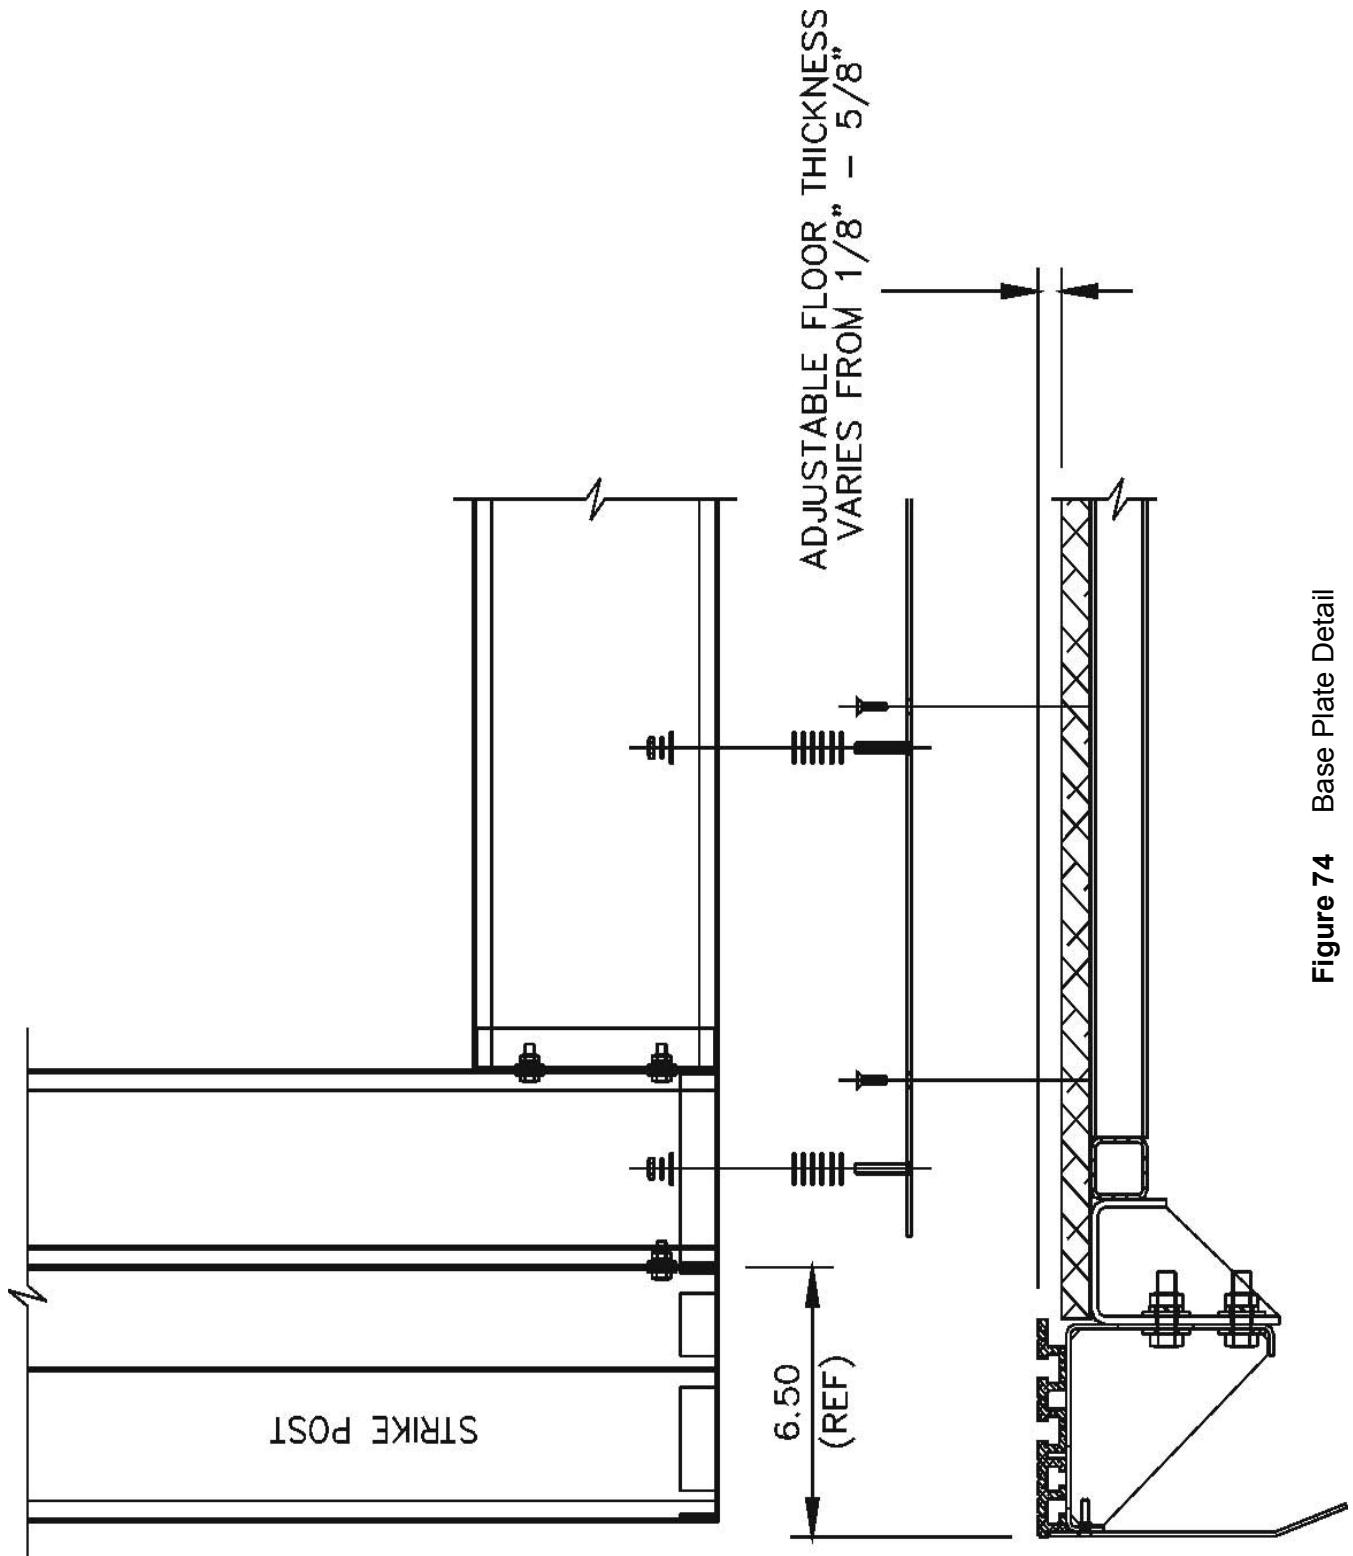

Figure 74 Base Plate Detail
- 2) Insert washers over the studs on the wall base plates and secure the wall to the base plates using the $\frac{1}{4}$ " - 20 hardware supplied. Note, the number of washers required is determined by sill / finished floor height. Refer to Figure 74.
The side wall (opposite control wall) for steel cab models is placed $1\frac{1}{2}$ " (38 mm) from the edge of the platform (Figure 74).